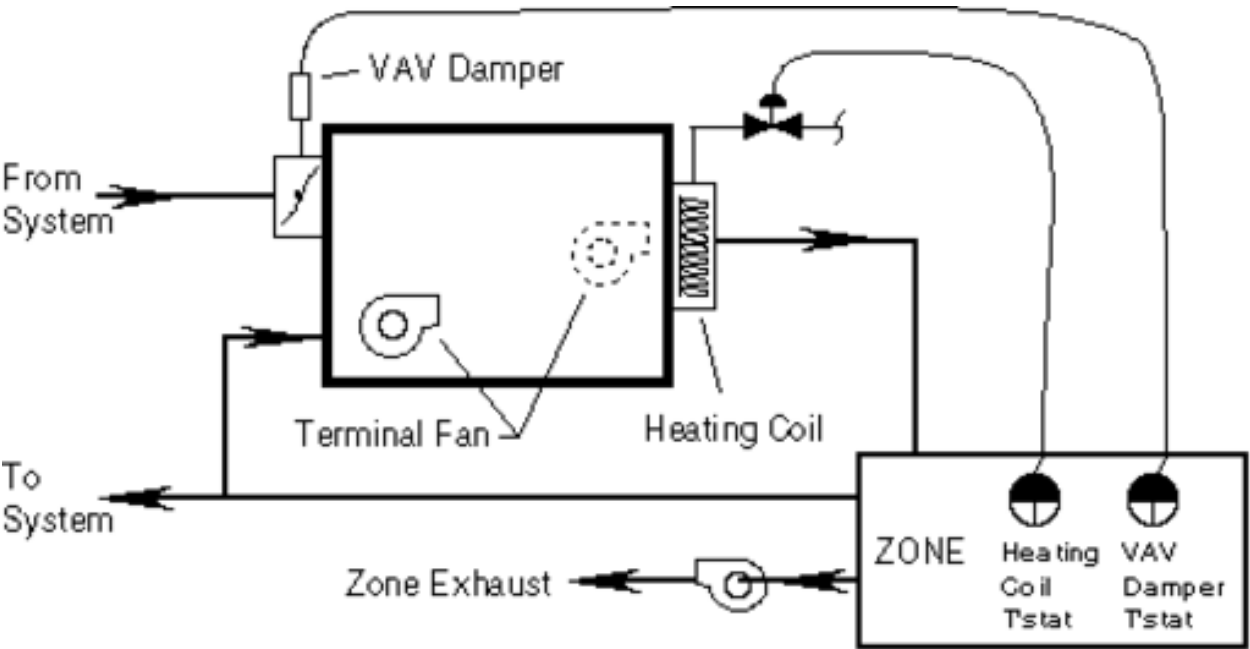

Figure 2: Insert Figure Title
**AIRHANDLER** defines a central air handling system, containing a fan or fans, optional heating and cooling coils, and optional outside air intake and exhaust. **AIRHANDLERs** are subobjects of **TOP**, and deliver air to one or more **ZONEs** through **TERMINAL(s)**. **AIRHANDLER** objects can be used to model fan ventilation and forced air heating and cooling. Dual duct systems are modeled with two **AIRHANDLERs** (one for hot air and one for cool air) and two **TERMINALs** in each zone. Figure 2 shows.... [need a sentence that explains the figure.]